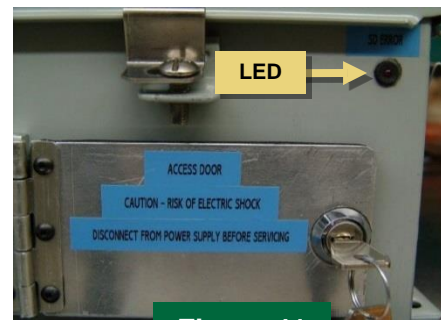
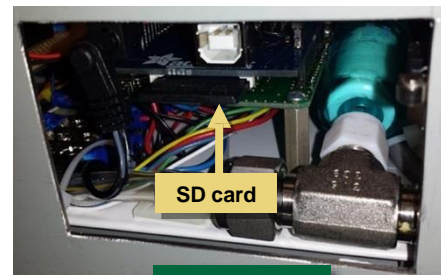

Figure 41
Figure 42
2. Use the key provided with the CSAM unit to open the access door (Figure 41).
3. Make sure the SD card is inserted properly into its slot (Figure 42). The LED at the top right of the access door (Figure 41) will light up if the card is not inserted correctly.
2. Open the access door (Figure 41). The CSAM will cease monitoring.
3. Pull out the SD card (Figure 42) for transport to the data processing location.
4. Insert a new SD card into the slot. If not properly inserted, the LED at the top right of the access door (Figure 41) will illuminate.